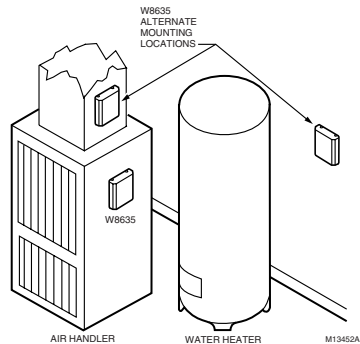

Fig. 1. Selecting W8635B Equipment Interface Module location.
- a. The modules are designed to be installed in the equipment room near the HVAC equipment. See Fig. 1 and 2.